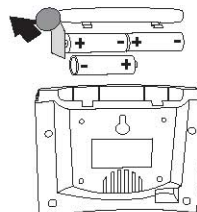

Fig.1
Please remove the **contact insulator** in the battery compartment before starting the commissioning (see Fig. 1). Your wirefree chime is now ready for use.
12. Proceed as described above for the individual units if the batteries are old and you have to change them. Always ensure that the battery polarities are correct (see Figs. 1, 5 & 7). Please dispose of the old batteries in an environmentally friendly way.